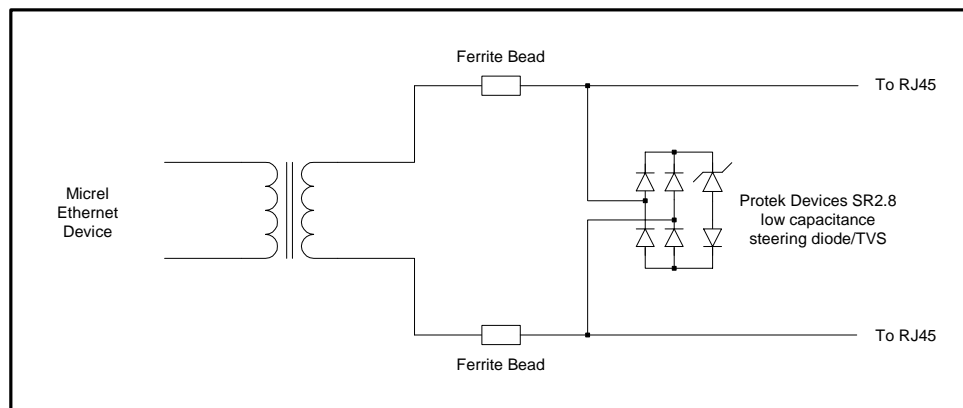

Figure 3: ESD Protection on RJ45 side
- Various ESD protection methods can be used. The level of ESD protection provided by each method will vary and depend on the type of protection device used. The manufacturer's datasheet should be consulted for the level of ESD protection and proper connection. Figures 3 and 4 show two ESD protection methods using the Protek Devices SR2.8.